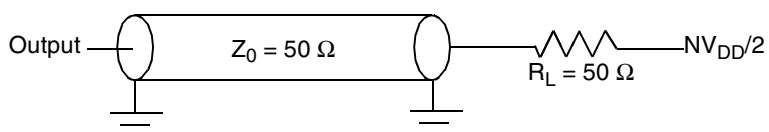
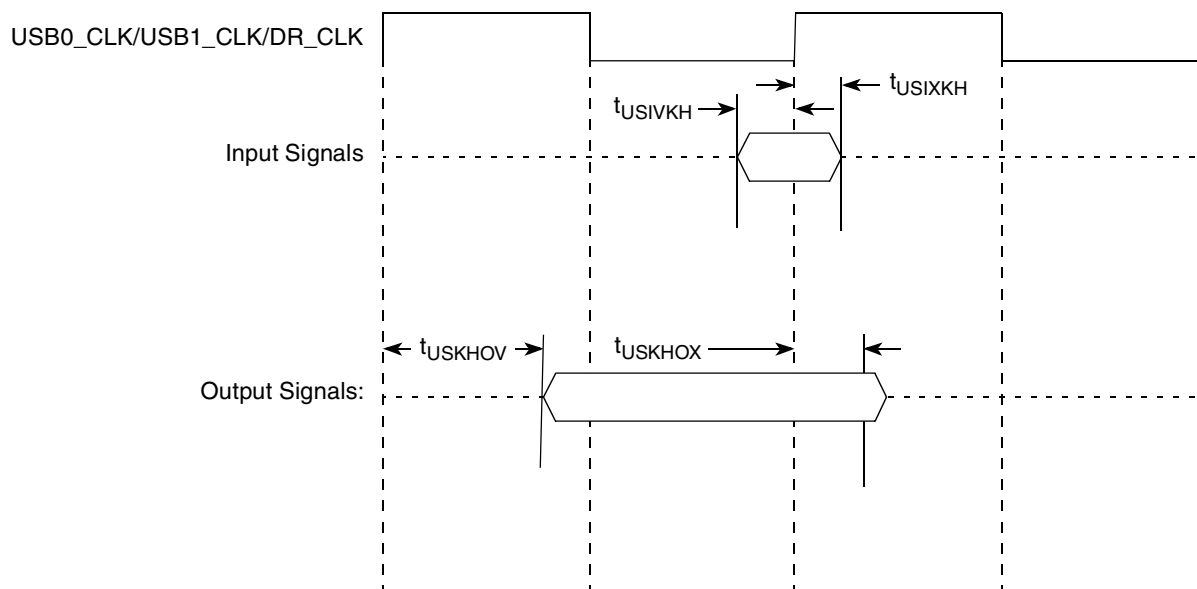

Figure 17. USB AC Test Load
Figure 18. USB Signals
Figure 17 and Figure 18 provide the AC test load and signals for the USB, respectively.
1. All outputs are measured from the midpoint voltage of the falling/rising edge of t_{TCLK} to the midpoint of the signal in question. The output timings are measured at the pins. All output timings assume a purely resistive 50- Ω load (see Figure 17). Time-of-flight delays must be added for trace lengths, vias, and connectors in the system.
2. The symbols used for timing specifications herein follow the pattern of $t_{(first\ two\ letters\ of\ functional\ block)(signal)(state)\ (reference)(state)}$ for inputs and $t_{(first\ two\ letters\ of\ functional\ block)(reference)(state)(signal)(state)}$ for outputs. For example, t_{JTDVXH} symbolizes JTAG device timing (JT) with respect to the time data input signals (D) reaching the valid state (V) relative to the t_{JTG} clock reference (K) going to the high (H) state or setup time. Also, t_{JTDVXH} symbolizes JTAG timing (JT) with respect to the time data input signals (D) went invalid (X) relative to the t_{JTG} clock reference (K) going to the high (H) state. Note that, in general, the clock reference symbol representation is based on three letters representing the clock of a particular functional. For rise and fall times, the latter convention is used with the appropriate letter: R (rise) or F (fall).